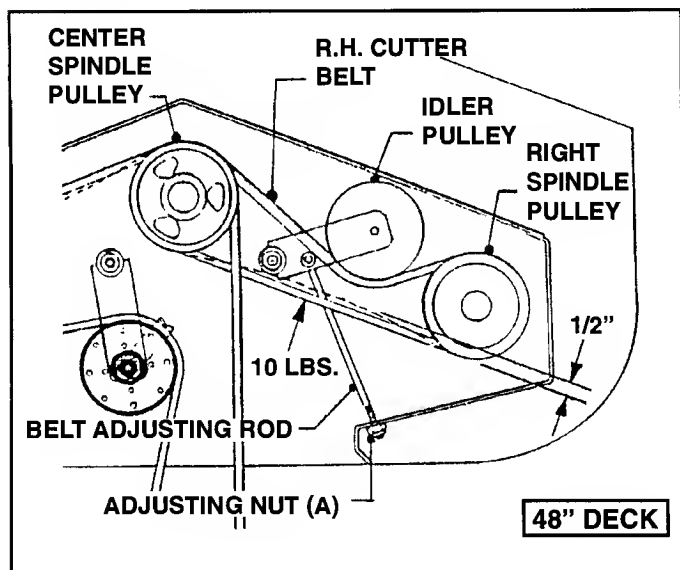

FIGURE 5.12
A. Blade Belt should move 1/2" with 10 pounds of pressure applied to belt between center and right Spindle Pulleys. **DO NO OVER TENSION BELT!** See Figure 5.12.
B. Belt adjustment is made by tightening/loosening Nut on Idler Linkage. Refer to Figure 5.12.